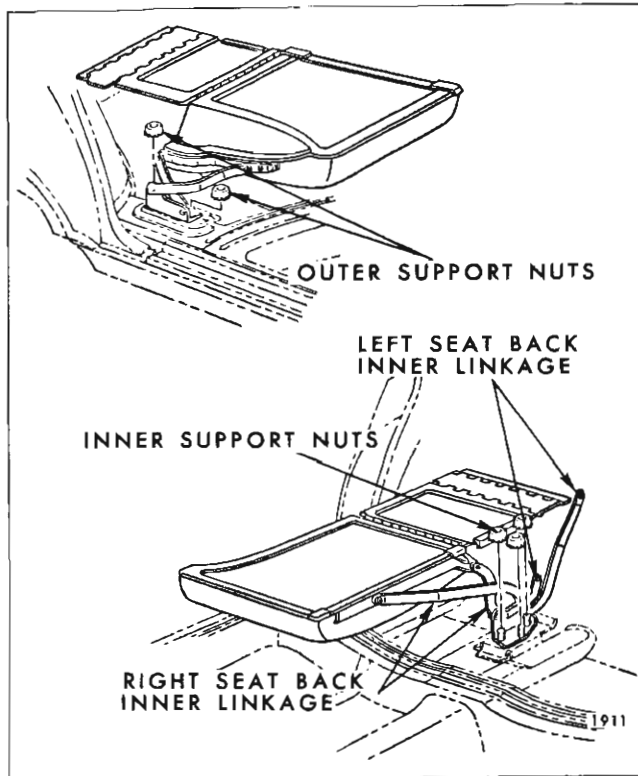

Fig. 1H37—Folding Second Seat Back Supports and Linkages (Split Seat)
4. To remove linkage from folding second seat back remove linkage-to-seat back panel attaching bolts and remove linkage - See (Fig. 1H38 for full width seat) (Fig. 1H39 for split seat).